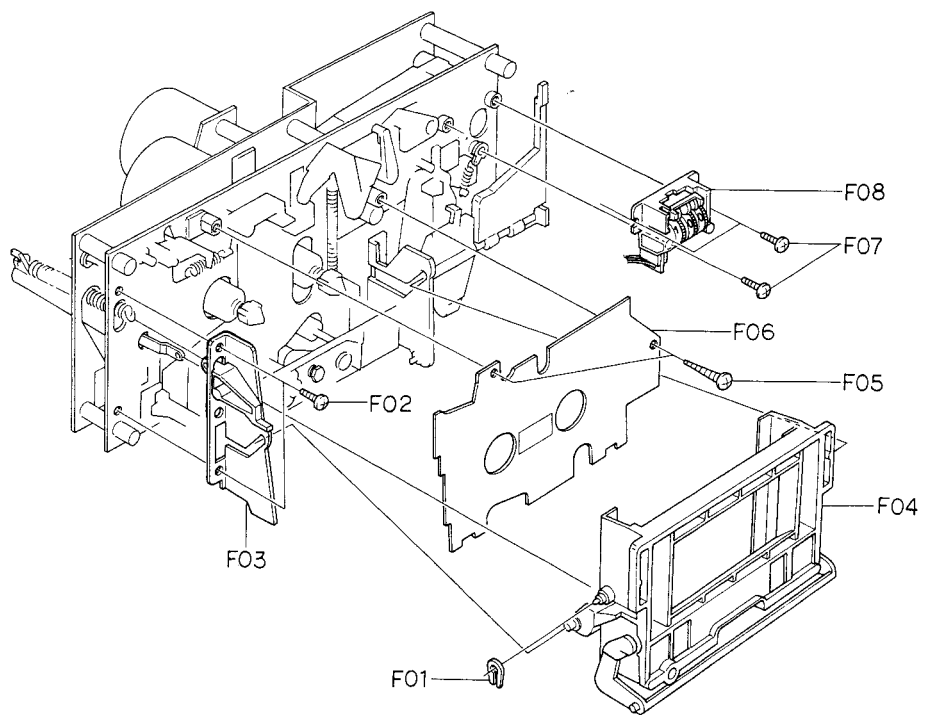

Fig. 2.5
Refer to Fig. 2.5.
- (1) Refer to Fig. 2.5. Remove Cassette Case Ass'y referring to item 2.14.
- (2) Remove F01, then disassemble F02 (Head Mount Base Ass'y).